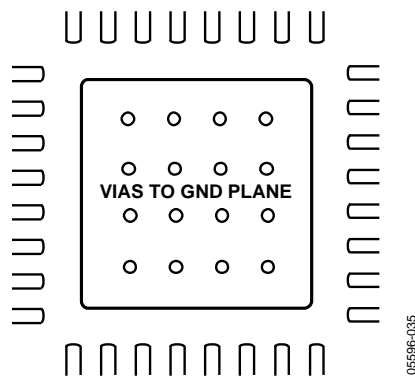

Figure 34. PCB Land for Attaching Exposed Paddle
**The exposed paddle of the AD9514 package must be soldered down.** The AD9514 must dissipate heat through its exposed paddle. The PCB acts as a heat sink for the AD9514. The PCB attachment must provide a good thermal path to a larger heat dissipation area, such as a ground plane on the PCB. This requires a grid of vias from the top layer down to the ground plane (see Figure 34). The AD9514 evaluation board (AD9514/PCB) provides a good example of how the part should be attached to the PCB.